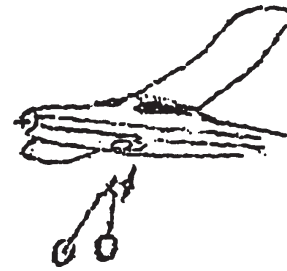

Figure 3 - Landing Gear
4. While squeezing the legs of the Landing Gear together, insert legs into the slot on the bottom of the Fuselage. After the Landing Gear is inserted, release pressure on the Landing Gear Legs so that they snap into place and are held in their slot on the Fuselage-see Figure 3.